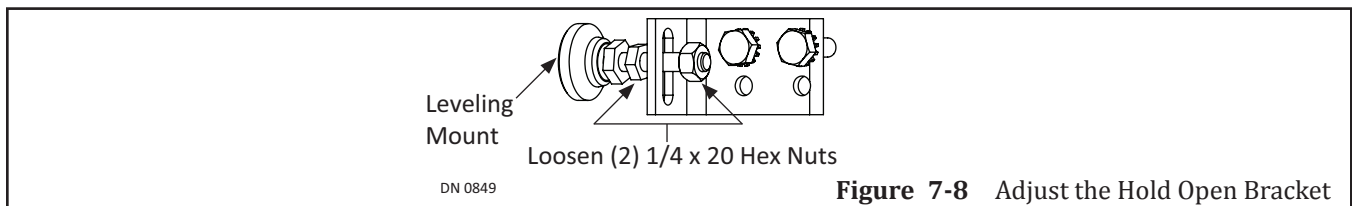

Figure 7-8 Adjust the Hold Open Bracket
3. Loosen (2) Hex nuts on the Magnetic Strike. Please see Figure 7-8.